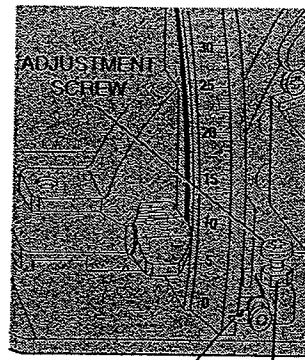

FIG. 11
- Loosen the hex nut and move the adjustment screw so that the shoe will stop at the proper angle as shown in Figure 11. Lock the screw in place by tightening the hex nut.